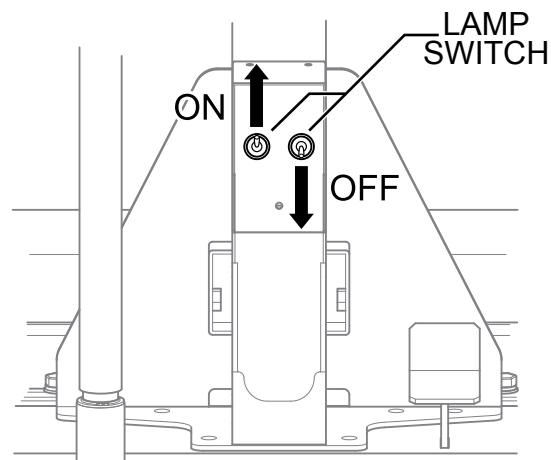

Figure 14. Turning ON/OFF Lamp Switches
4. Lamp operations are controlled by (2) ON/OFF toggle switches located on the Main Switch Box (Figure 14). The left lamp switch controls both upper lamps, and right lamp switch controls both bottom lamps.